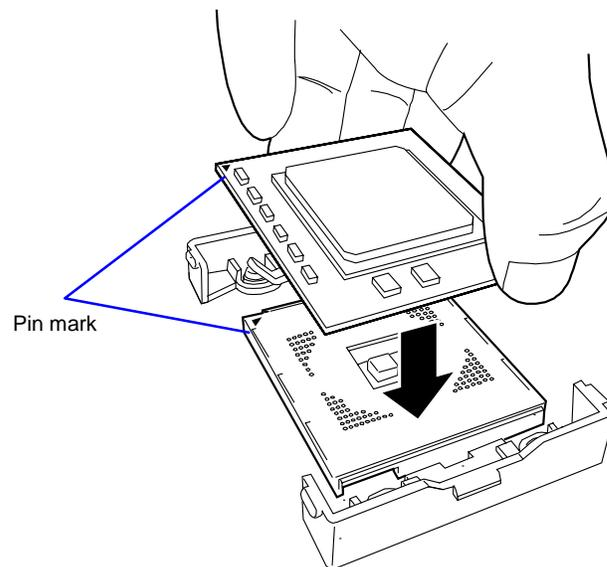

Figure 4-8. Installing a CPU
11. Aligning the pins of the CPU with the socket, insert the CPU slowly and gently into the socket. See Figure 4-8.